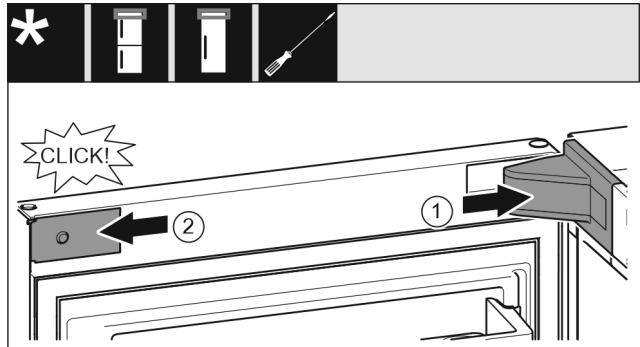

Fig. 63
- ▶ Put the swap bearing block cover *Fig. 63 (1)* on and engage, push apart carefully if required.
- ▶ Place the trim *Fig. 63 (2)* on the side and engage.